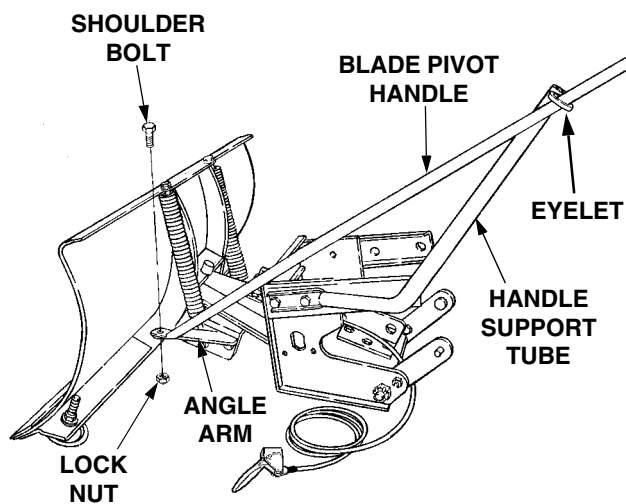

Figure 5
2. Slide the blade pivot handle (6) through the eyelet of the handle support tube (5). Attach to the blade angle arm of the pivot plate with the shoulder bolt (16) and flanged lock nut (15). See Figure 5.